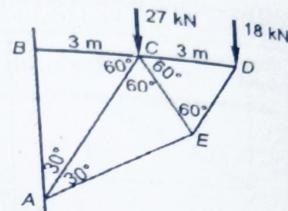

Fig 2.99
- 1) A truss is shown in the fig 2.99. Find the magnitude and nature of forces in the members BC, AC and AE by the method of section. (Ans: BC=36.373kN, AC= 41.569kN, AE=18kN)